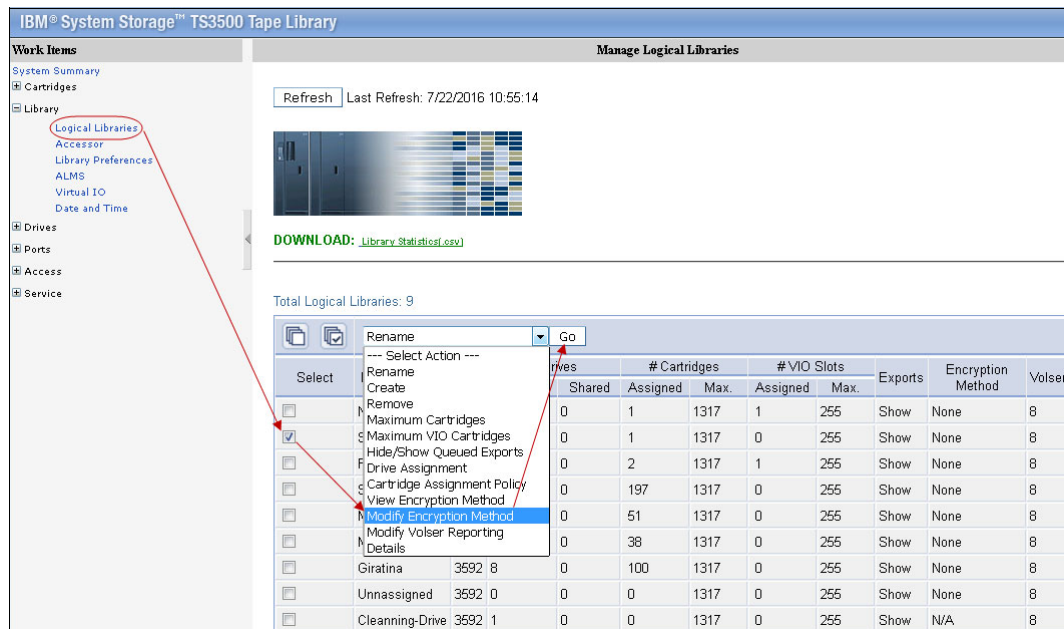

Figure 9-155 Select the encryption method
- In the TS3500 MI, click **Library** → **Logical Libraries**, select the logical library with which you are working, select **Modify Encryption Method**, and then click **Go**. See Figure 9-155.